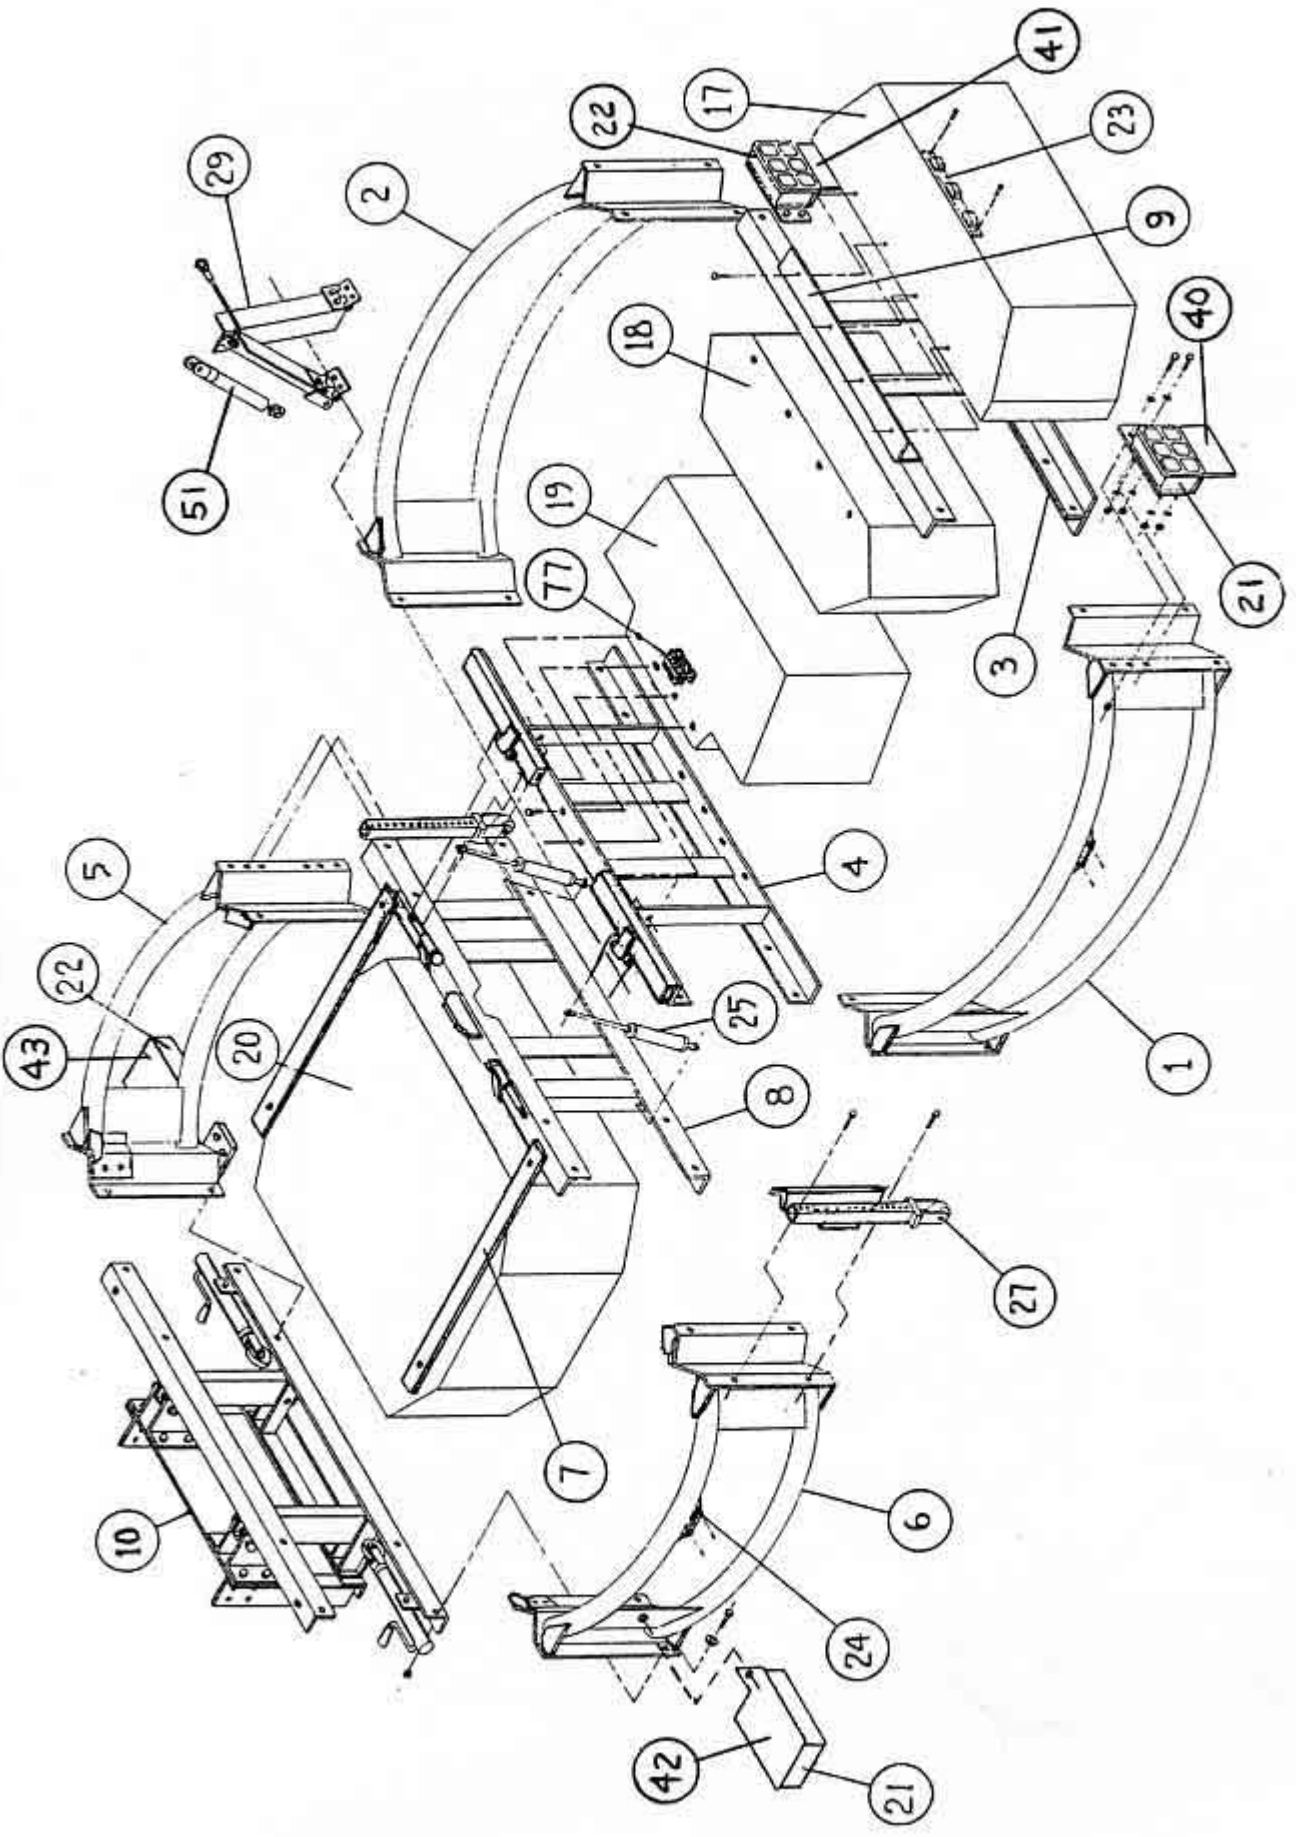

Fig. 9 – Scorpion TMA Model B or C (TL-3) Exploded View
1.1 Part Numbers – The complete TMA system is ordered using part number 10,000. A model designation of A, B, or C is used to distinguish the TL-2, the TL-3 with 10° strut tilt, and the TL-3 with 90° strut tilt. Fig. 9 is an exploded isometric view showing a TL-3 TMA.